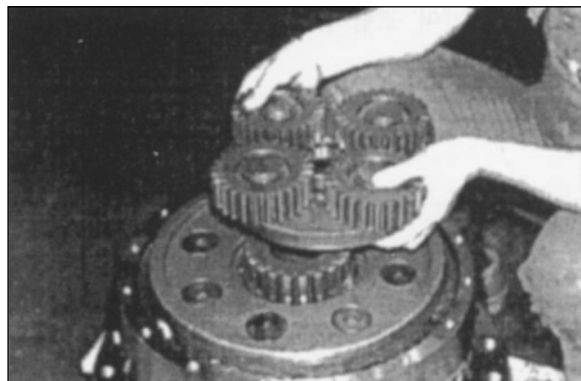

Figure 106
15. Assemble the second shift reduction assembly. Figure 106.